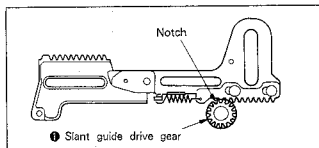

Fig. 7-32.
Engage the slant guide drive gear ① so that the notch is 1 tooth away from the L slider assembly left side tooth. (See Fig. 7-32.)